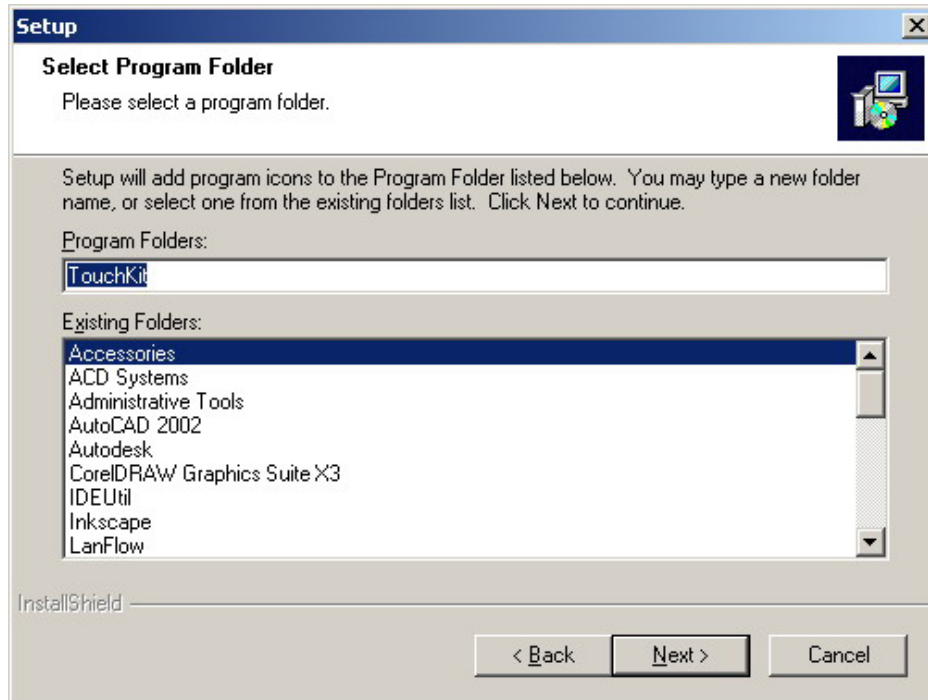

Figure 7-9: Program Icon Directory
Step 12: The user is then prompted to select a file directory in which the program icons are saved (**Figure 7-9**). The default folder is “TouchKit.” If a different folder must be used, select a folder from the list shown. Once the folder is selected, click **NEXT** to continue.